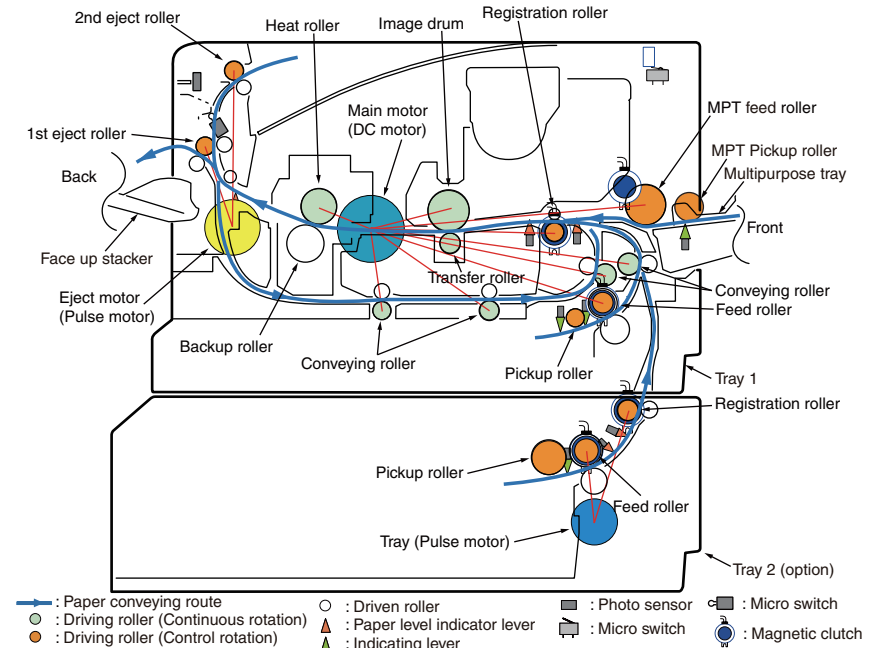

Figure 3-2
3. Pressing the [OK] key starts the test. The unit name starts flashing and the corresponding unit is activated for 10 seconds. (Refer to Figure 3-2.)